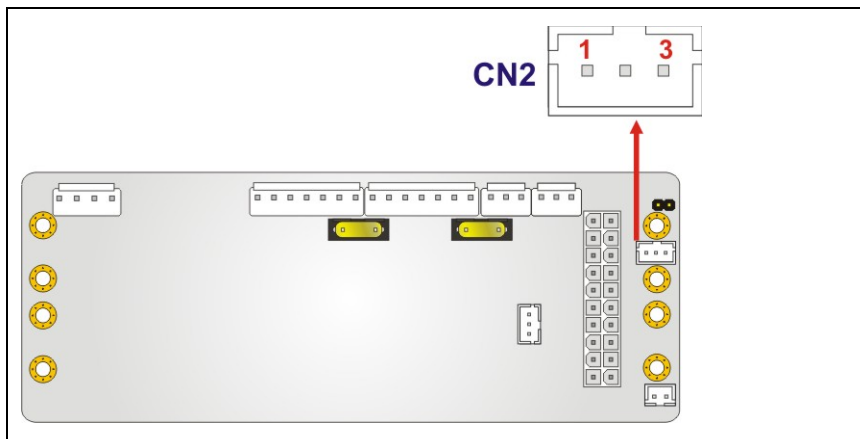

Figure 4-3: ATX Mode Connector Location
- CN Location:** See **Figure 4-3**